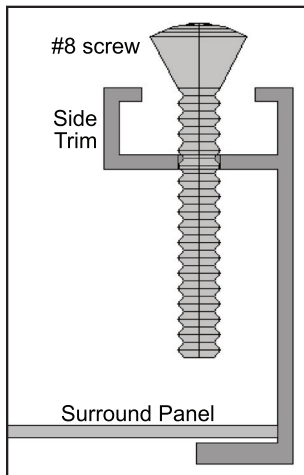

Figure 62: Screw to hold the trim against the surround.
3. Slide the two (2) attached trim pieces onto the surround panel.
6. On the side trims, there are holes 2" (50 mm) from either end. Use a Phillips screwdriver to place a #8 screw 1 1/4" long in each hole and tighten (refer to Figure 62). This will keep the trim tight against the surround.